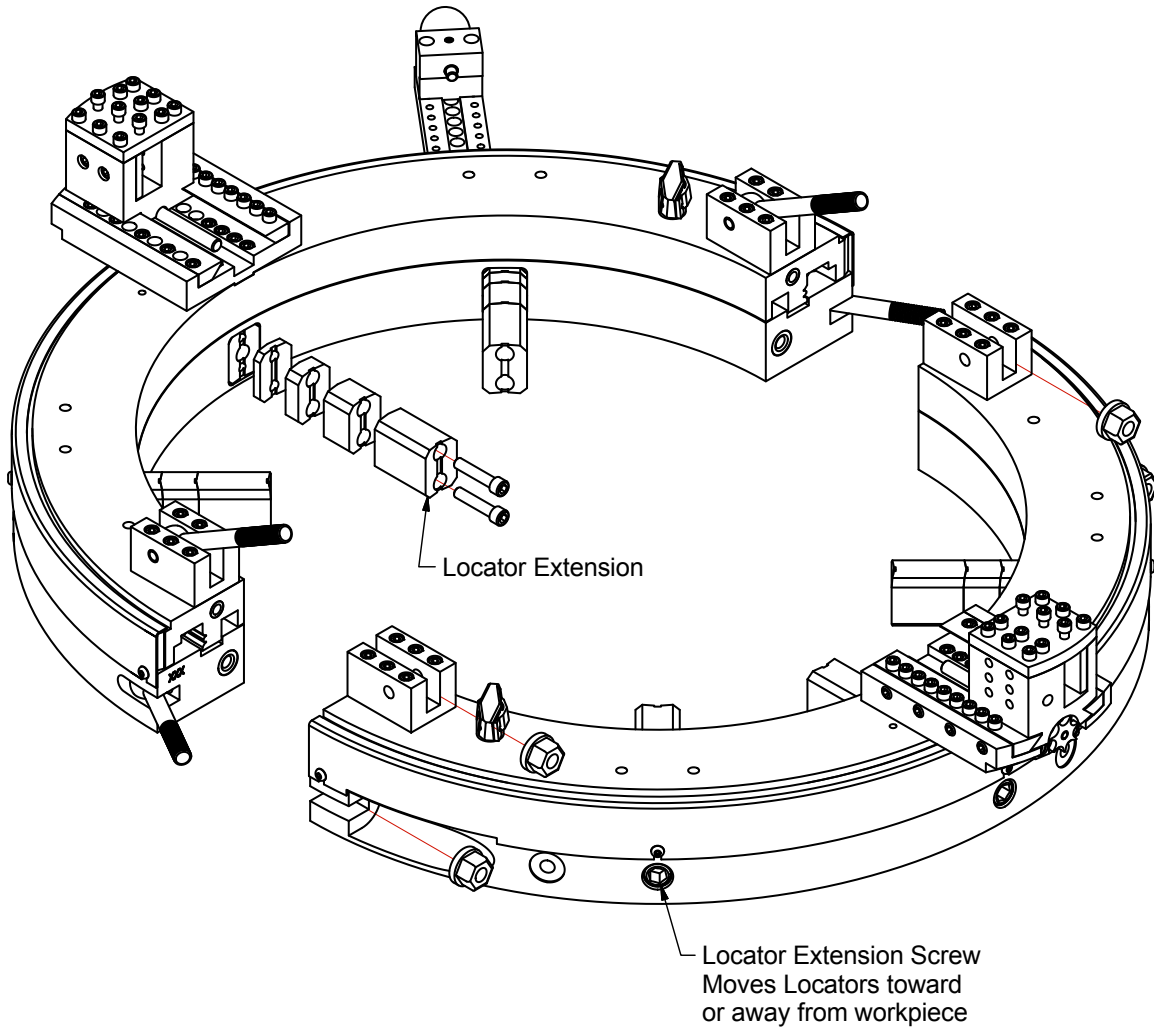

Figure 2-3 – Install Locator Extensions
3. Determine the pipe or workpiece diameter. Select the size and combination of locator extensions required to fit around the diameter of the workpiece. Locator adjustment is done by turning the set screws on the outside of the clamshell housing. Back the locators out slightly so that they will clear the workpiece diameter when the clamshell is placed around the workpiece. See Figure 2-3.